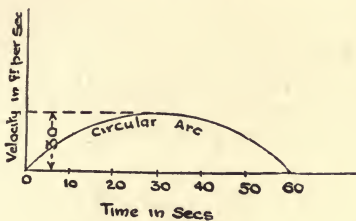

FIG. 4.
4. Fig. 4 is the velocity-time graph for a given motion. Draw to scale the corresponding acceleration-time graph, and calculate the total distance traversed in the sixty seconds.